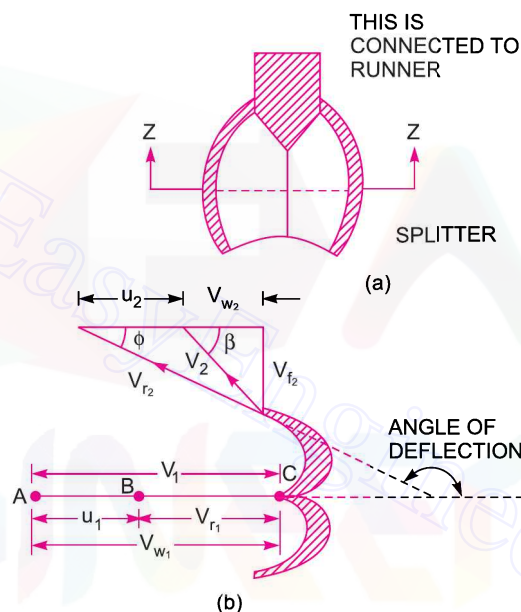

Fig. 18.5 Shape of bucket.
**18.6.1 Velocity Triangles and Work done for Pelton Wheel.** Fig. 18.5 shows the shape of the vanes or buckets of the Pelton wheel. The jet of water from the nozzle strikes the bucket at the splitter, which splits up the jet into two parts. These parts of the jet, glide over the inner surfaces and comes out at the outer edge. Fig. 18.5 (b) shows the section of the bucket at Z-Z. The splitter is the inlet tip and outer edge of the bucket is the outlet tip of the bucket. The inlet velocity triangle is drawn at the splitter and outlet velocity triangle is drawn at the outer edge of the bucket, by the same method as explained in Chapter 17.